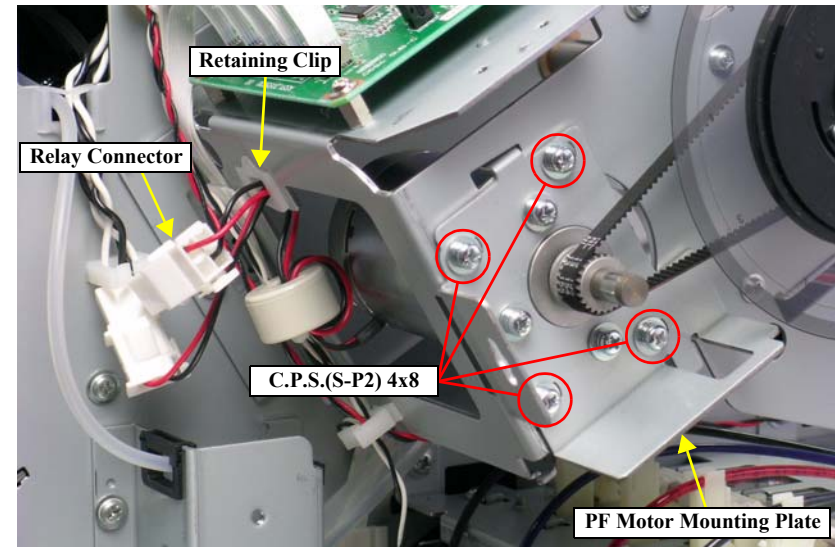

Figure 4-85. Screws Securing the PF Motor Mounting Plate
6. Disconnect the connector of the PF MOTOR ASSY. from the relay connector, and release the PF MOTOR ASSY. harness from the retaining clip. *See Figure 4-85.*
7. Remove the four screws that secure the PF Motor Mounting Plate. *See Figure 4-85.*